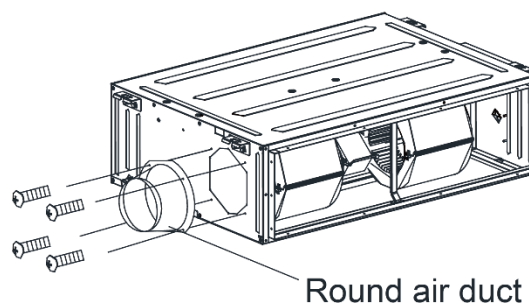

Fig 4.4.9
(2)Install the round flange so that the fresh air duct can be connected as Fig 4.4.9.